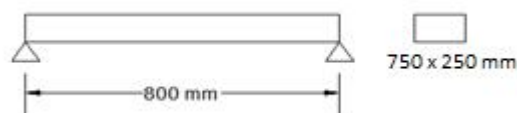

Fig.5
17. Determine the natural frequencies of a simply supported beam of length 800mm with cross section area of $750 \times 250 \text{ mm}$ as shown in Fig.5 Take $E = 200 \text{ GPa}$ and density 7850 kg/m^3 . 10